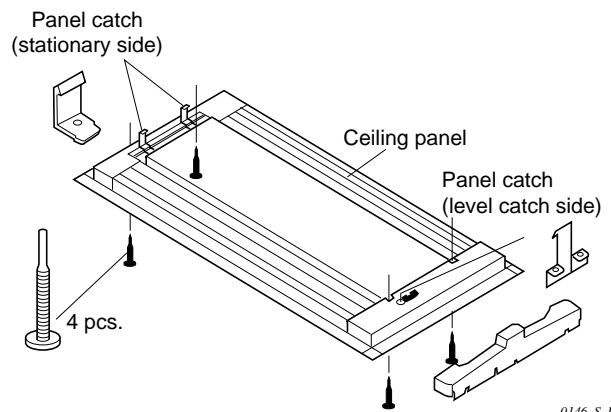

Fig. 10-5
- (1) Lift the ceiling panel and position it to align the panel catches with the catch recesses of the indoor unit.
- (2) Hook the stationary catch first and then press up on the opposite side to engage the level catch to install as shown in Figs. 10-5 and 10-6.